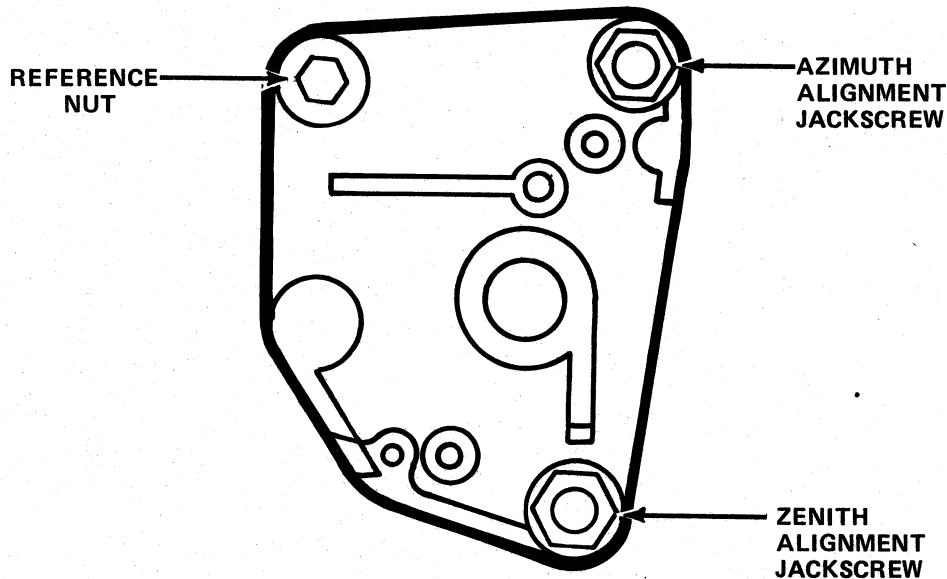

Figure 3-12. Jackscrew Locations on Head Carriage Assembly
- i. If indicator point is not between ± 15 minutes angular tolerance lines on zenith alignment tool, adjust rear jackscrew, shown in Figure 3-12, until the indicator point is as close to 0 minute as possible. To adjust jackscrew,